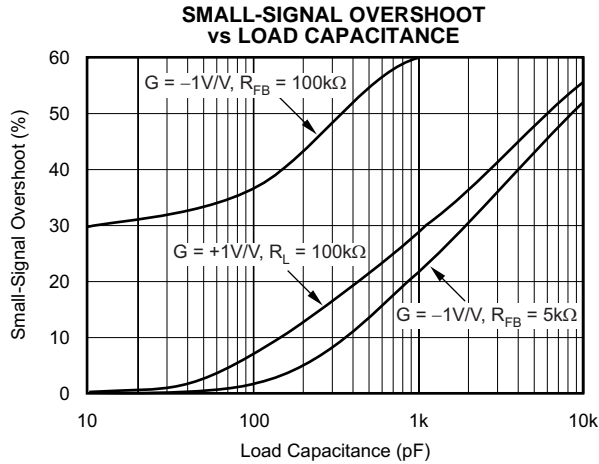
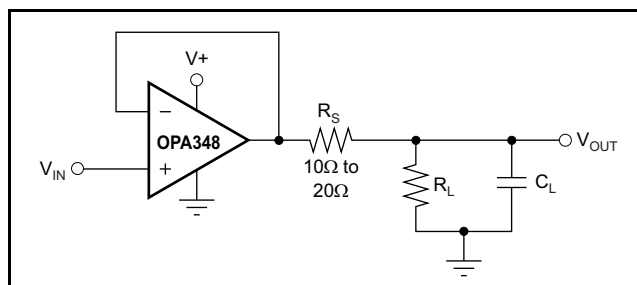
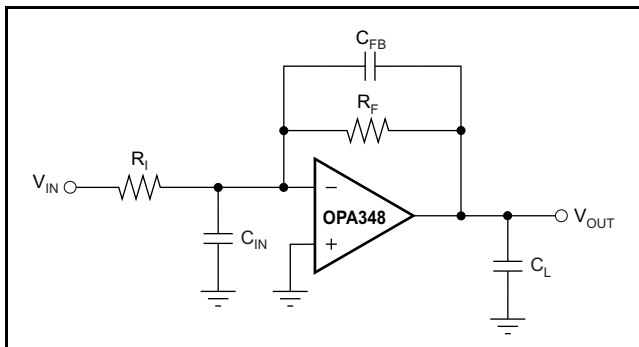

Figure 13.
Figure 23. Series Resistor in Unity-Gain Buffer Configuration Improves Capacitive Load Drive
Figure 24. Improving Capacitive Load Drive
The OPA348 in a unity-gain configuration can directly drive up to 250pF pure capacitive load. Increasing the gain enhances the amplifier's ability to drive greater capacitive loads (see the typical characteristic *Small-Signal Overshoot vs Capacitive Load*, Figure 13). In unity-gain configurations, capacitive load drive can be improved by inserting a small (10Ω to 20Ω) resistor,  $R_S$ , in series with the output, as shown in Figure 23. This significantly reduces ringing while maintaining DC performance for purely capacitive loads. However, if there is a resistive load in parallel with the capacitive load, a voltage divider is created, introducing a Direct Current (DC) error at the output and slightly reducing the output swing. The error introduced is proportional to the ratio  $R_S/R_L$ , and is generally negligible.
In unity-gain inverter configuration, phase margin can be reduced by the reaction between the capacitance at the op amp input, and the gain setting resistors, thus degrading capacitive load drive. Best performance is achieved by using small valued resistors. For example, when driving a 500pF load, reducing the resistor values from 100kΩ to 5kΩ decreases overshoot from 55% to 13% (see the typical characteristic *Small-Signal Overshoot vs Load Capacitance*, Figure 13). However, when large valued resistors cannot be avoided, a small (4pF to 6pF) capacitor,  $C_{FB}$ , can be inserted in the feedback, as shown in Figure 24. This significantly reduces overshoot by compensating the effect of capacitance,  $C_{IN}$ , which includes the amplifier's input capacitance and PC board parasitic capacitance.